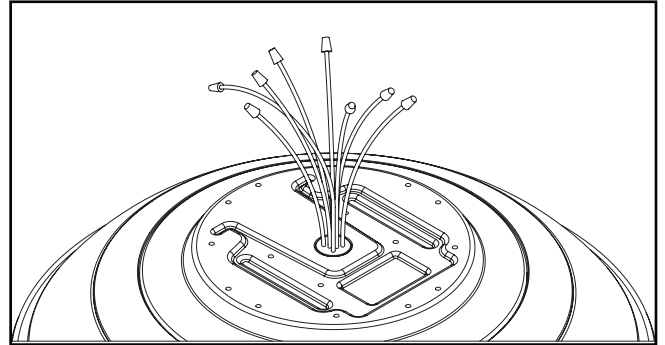

Figure 4. Image Of Fixture With UL924 Wires
1. Make Electrical Connections Supplement. (Figure 4)